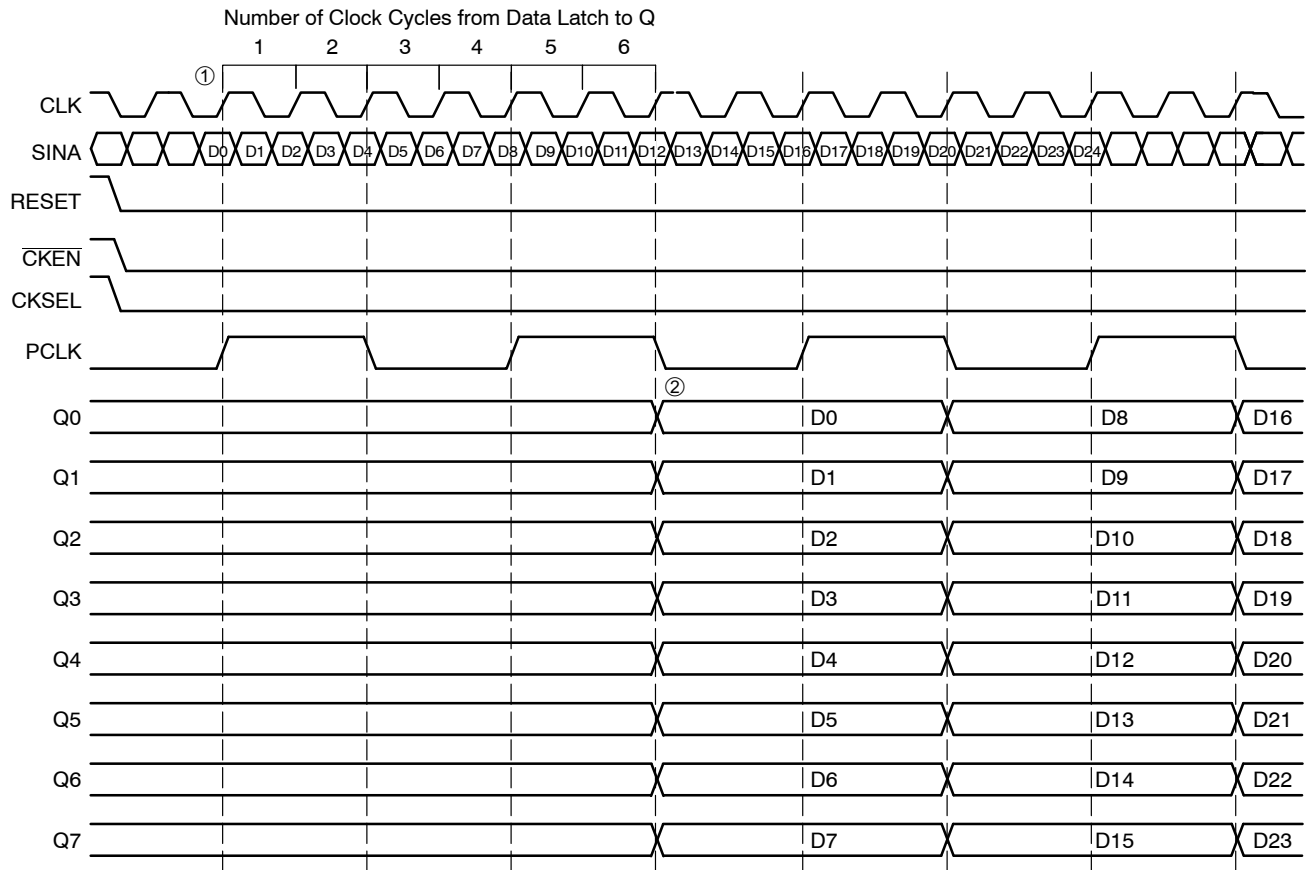

Figure 8. Timing Diagram A. 1:8 Serial to Parallel Conversion with CKSEL LOW
For CKSEL LOW operation, the data is latched on both the rising edge and the falling edge of the clock and the time from when the serial data is latched① to when the data is seen on the parallel output② is 6 clock cycles (see Figure 8).